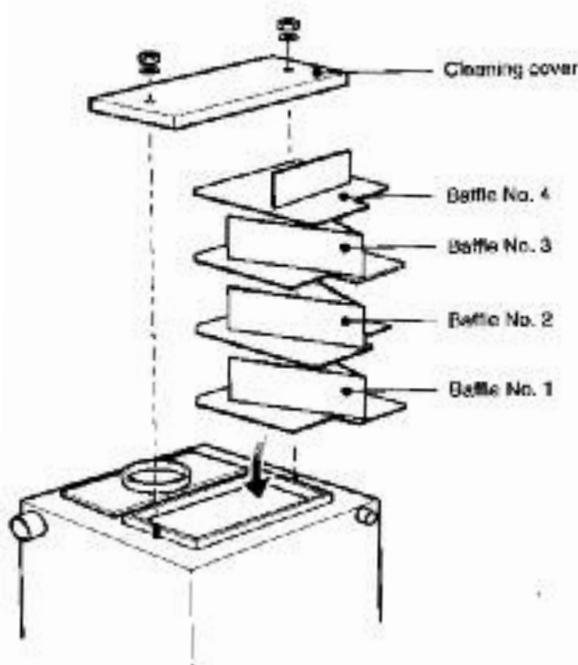

Fig. 18 - 50/70 baffle positions
See Figs. 18, 19, 20, 21 and 22
- 3 Remove the baffles, noting their position (see Figs. 18, 19, 20, 21 or 22).
- 7 Replace the baffles, ensuring they are correctly fitted. See Fig. 18, 19, 20, 21 or 22.